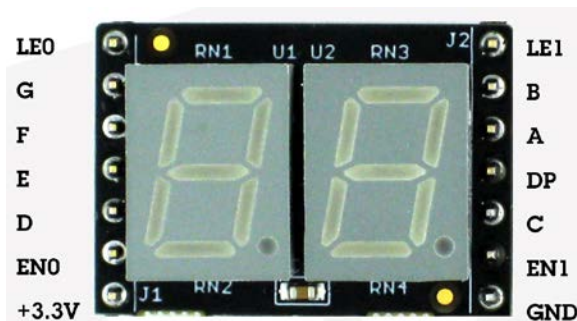

Figure 4: Pin placements for the two 7-segment LED displays on 7-segment PCB.
11. See Figure 4 (also in the 7-segment Display Board Info document) for 7-segment display pin placements. You will use the left 7-segment LED display (not the right one) in this lab by connecting EN0 to GND; also connect EN1, LE0, and LE1 to Vcc. (You will learn what these signals mean in a few weeks.)
12. Use Figure 4 to correctly place the decoder outputs A through G.